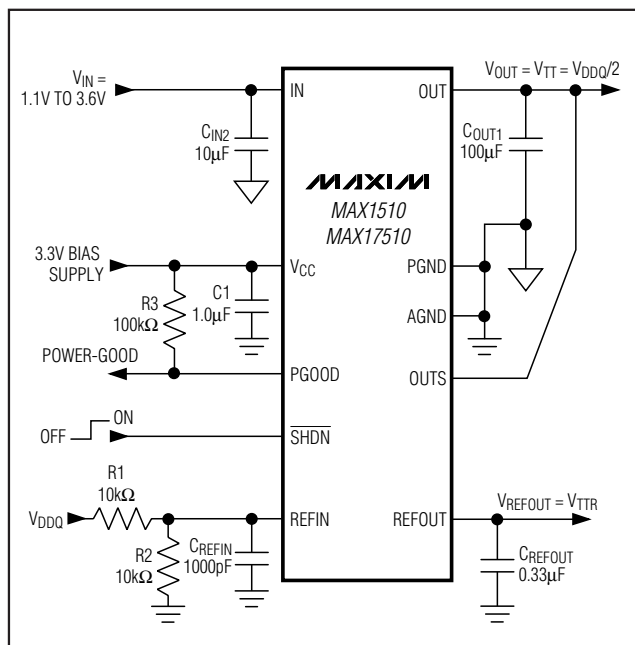

Figure 1. Standard Application Circuit
($V_{IN} = 1.8V$, $V_{CC} = 3.3V$, $V_{REFIN} = V_{OUTS} = 1.25V$, $\overline{SHDN} = V_{CC}$, circuit of Figure 1, $T_J = T_A = -40^{\circ}C$ to $+85^{\circ}C$ for MAX1510ETB, $T_J = T_A = -40^{\circ}C$ to $+125^{\circ}C$ for MAX17510ATB, unless otherwise noted. Typical values are at $T_A = +25^{\circ}C$.) (Note 1)
(Circuit of Figure 1. $T_A = +25^\circ\text{C}$, unless otherwise noted.)
The MAX1510/MAX17510 are low-voltage, low-dropout DDR termination linear regulators with an external bias supply input and a buffered reference output (see Figures 1 and 2). V_{CC} is powered by a 2.7V to 3.6V supply that is commonly available in laptop and desktop computers. The 3.3V bias supply drives the gate of the internal pass transistor, while a lower voltage input at the drain of the transistor (IN) is regulated to provide V_{OUT}. By using separate bias and power inputs, the MAX1510/MAX17510 can drive an n-channel high-side MOSFET and use a lower input voltage to provide better efficiency.
The MAX1510/MAX17510 regulate OUTS to the voltage set at REFIN, making the MAX1510/MAX17510 ideal for memory applications where the termination supply must track the supply voltage. Typically, REFIN is set by an external resistive voltage-divider connected to the memory supply (VDDQ) as shown in Figure 1.